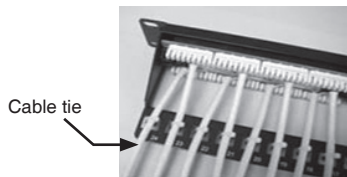

Figure 6.
F. Use a twist tie to secure the cable tightly onto the support bar. Repeat this process for each cable you wish to connect. (Figure 6)